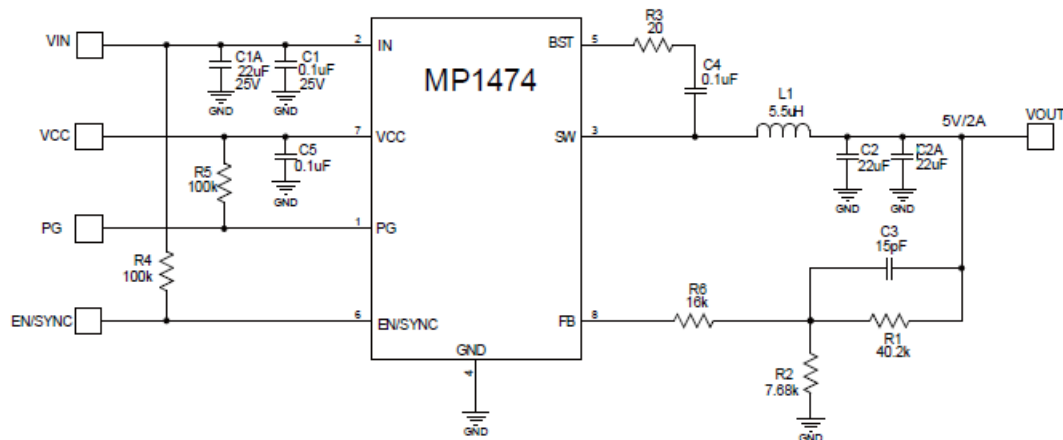

Figure 7: 12V_{IN}, 5V/2A Output
- 8) The recommended layout is based on the Figure 7 Typical Application circuit on the next page.